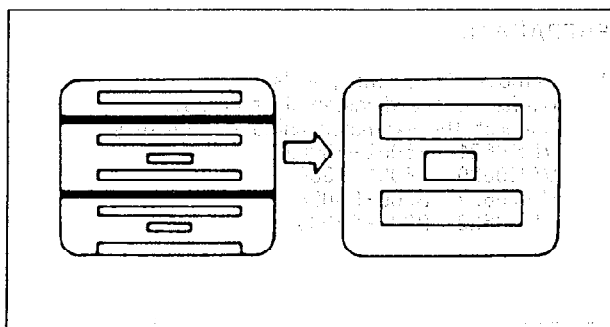

Fig. C46
- (1) Aim the camera at the gray scale chart.
- (2) Adjust the Vertical Size (VR801) so the Vertical Size is correct and the picture does not roll as shown in Fig. C46.